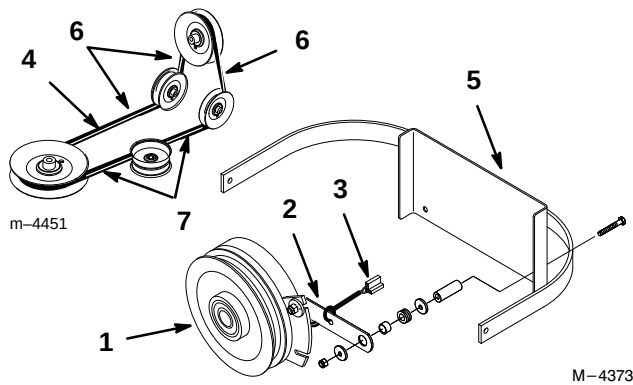

Figure 7
IMPORTANT: Check the amount of twist in belt between pulleys. Make sure it is only what is specified in figure 7.
2. Install clutch retaining strap and plug clutch terminal into main wire harness (Fig. 7).